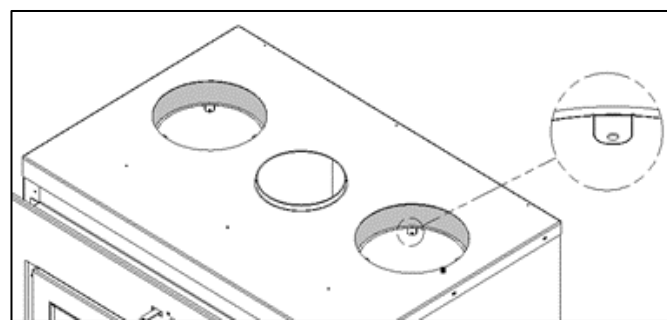

Figure 3-16: Tabs Inside the 8 Inch Knockouts
9. Bend the tabs inside the 8 inch knockouts (Figure 3-16) upwards.